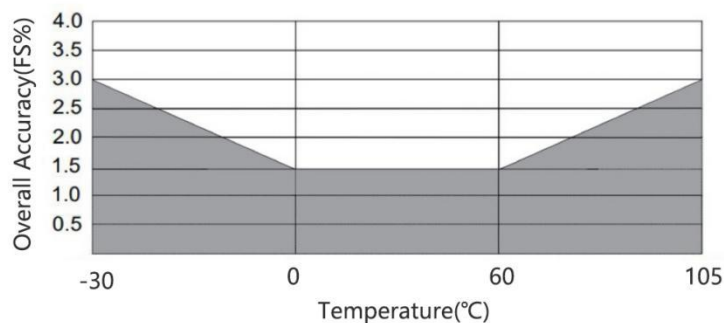

Fig.4 Relationship between overall accuracy and temperature
(1) Pressure drift: The output deviation between the actual output voltage at zero point and full scale and the specified output voltage within the specified pressure range.
(2) Temperature effect: The output deviation of zero point and full scale at different temperatures within the temperature range.
(3) The overall accuracy is expressed by an error band, which consists of three line segments. The data are shown in Figure 4 and Table 2.